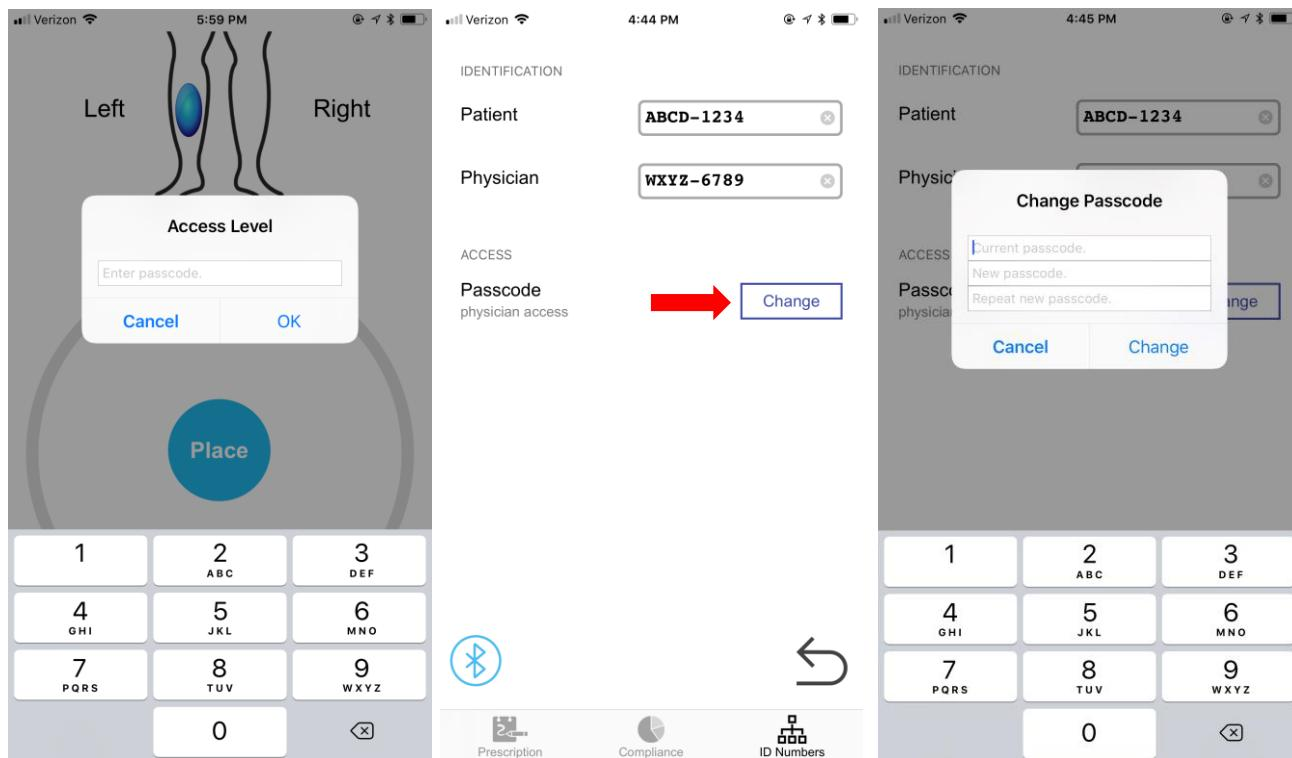

Figure 15: a) Accessing Physician (or Diagnostic) Window; (b) Changing PIN code
- a. The overall progress with the total prescribed therapy is shown in the “Overall” pie chart (yellow arrow) and weekly progress is shown below in corresponding pie charts (green arrow) i.e. “Week 1”; “Week 2” **Figure 15**.
1. Touch the Rx (Physician) symbol and key in correct passcode (1-2-3-4) and touch “OK” – **Figure 15**
3. Changing Passcode: – **Figure 15**
1. Touch the Rx (Physician) symbol and key in correct passcode (7-2-3-4-2-5) and touch "OK" – **Figure 15**